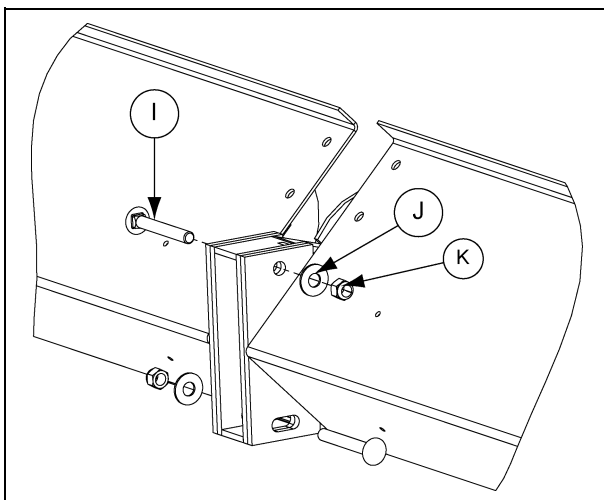

Figure 4AE
3. Install the first and second flighting shield (when applicable) to the hanger bracket using two (2) 3/8" x 3" carriage bolts, flat washers and lock nuts. (See Figure 4AE.)